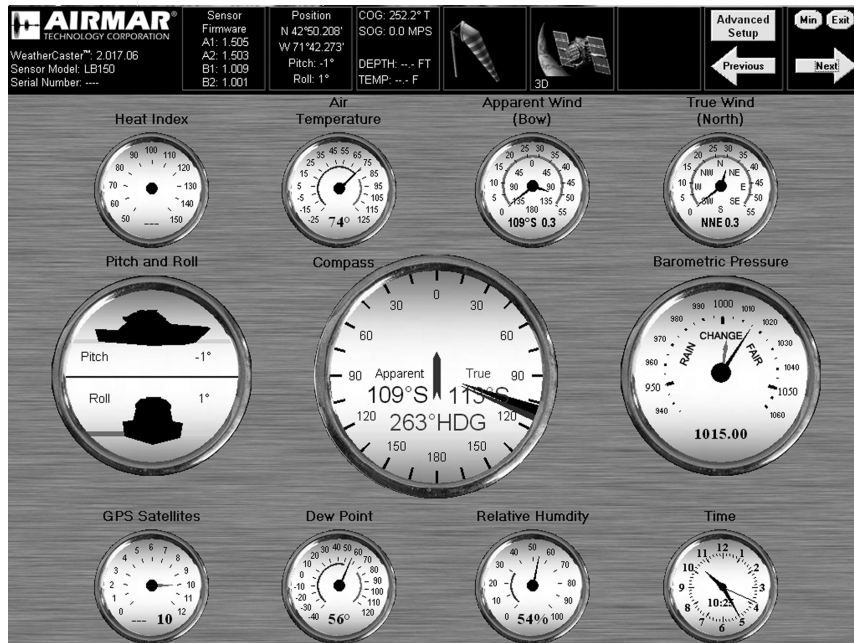

Figure 18. Analog Gauge Screen
- Analog Gauge Screen—This screen displays the data being sent from the sensor(s) on gauges in both analog and digital formats (see Figure 18).
Gauges display the data being sent from the sensor(s) (see Figure 18). Each gauge displays data in both analog and digital formats.